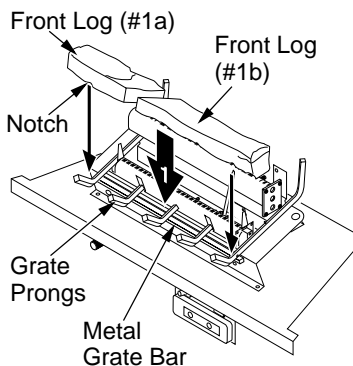

Figure 41 - Installing Front Logs (#1a and #1b)
1. Place front logs (#1a and #1b) on top of the grate. Make sure the notches in the bottom of the log fit over the grate prongs (see Figure 41). Push back of log flush with metal grate bar.